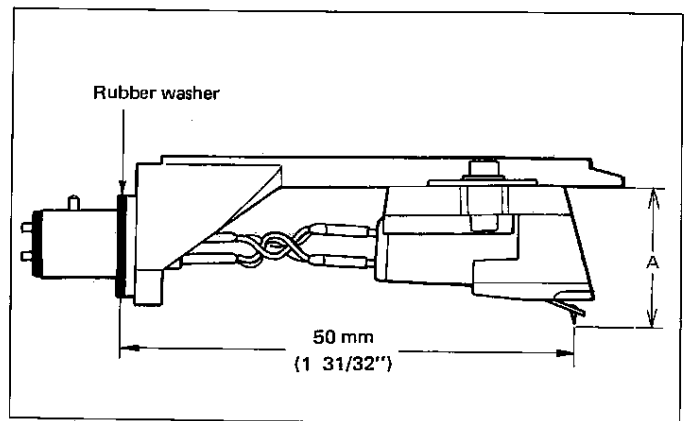

Figure 7
- * Any cartridge of which the dimension "A" shown in figure 7 is greater than 19 mm, cannot be applied to this set.